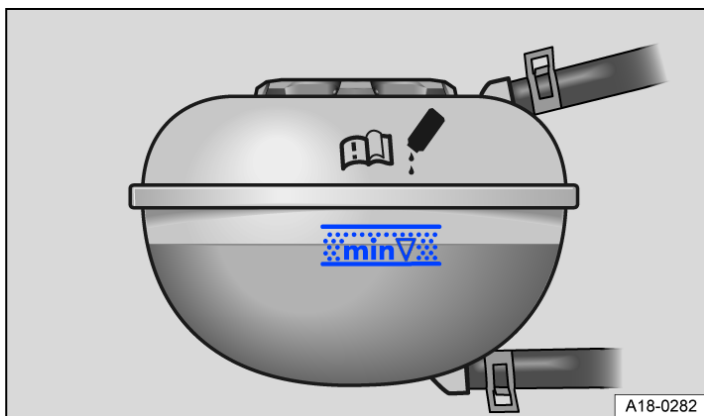

Fig. 2 In the engine compartment: markings on the engine coolant expansion tank.
1. When the engine is cold, check the coolant level using the markings on the side of the engine coolant expansion tank → *fig. 2*. The coolant level must be between the markings.
After topping up the engine coolant, the coolant level must be between the markings on the coolant expansion tank → *fig. 2*.